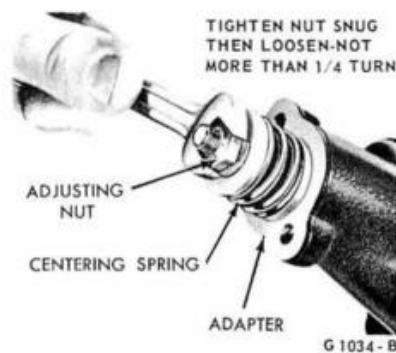

FIG. 17—Adjusting Centering Spring
16. Compress the centering spring, and install the nut on the bolt. Tighten the nut snug, then loosen it not more than $\frac{1}{4}$ turn (Fig. 17). **Excessive tightening of the nut may break the stop pin at the travel regulator stop.**